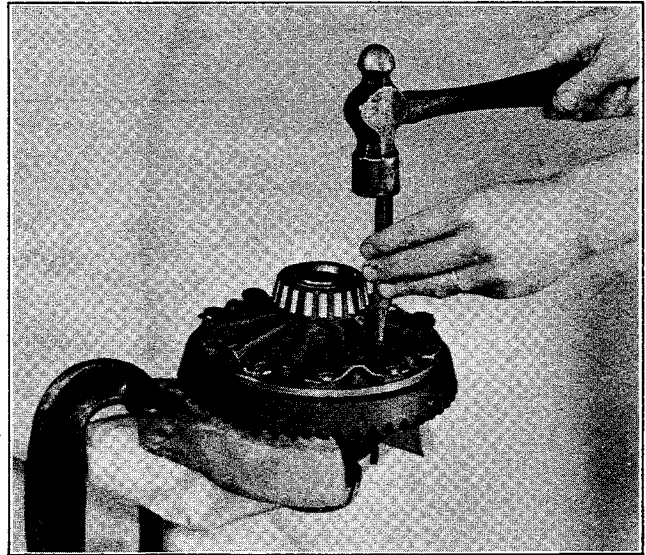

Figure 2-6. Removing Lock Pin
5. Pry differential case assembly (6) loose with large screwdriver or bar and lift from carrier. NOTE: Pry out differential case assembly as straight up as possible using leverage against differential and carrier to prevent damage.
6. Remove cups (7) from differential case bearings (8). NOTE: If bearing cones and cups are not worn or damaged and are to be reassembled, make certain that each mating cup and cone are paired together.
7. Drive out lock pin (9) securing differential pinion mate shaft to case (10). See Figure 2-6.